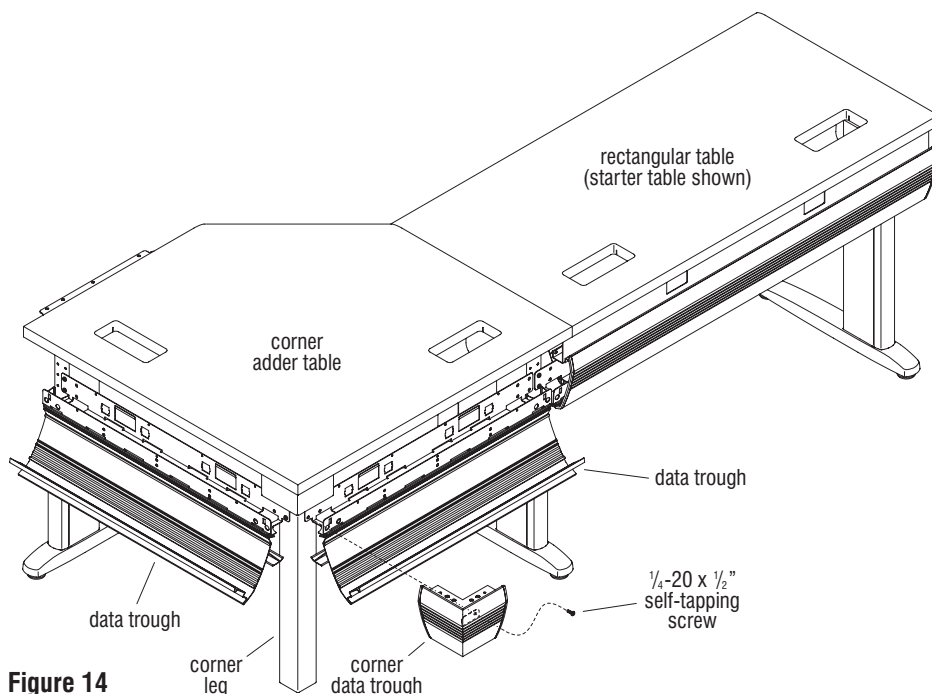

Figure 14
9. Align the mounting hole inside the corner data trough with the empty mounting hole of the rectangular beam. Using the previously removed $\frac{1}{4}$ -20 x $\frac{1}{2}$ " Torx pan head screw, secure the corner data trough to the rectangular beam and corner leg (Figure 14 & Detail Q).